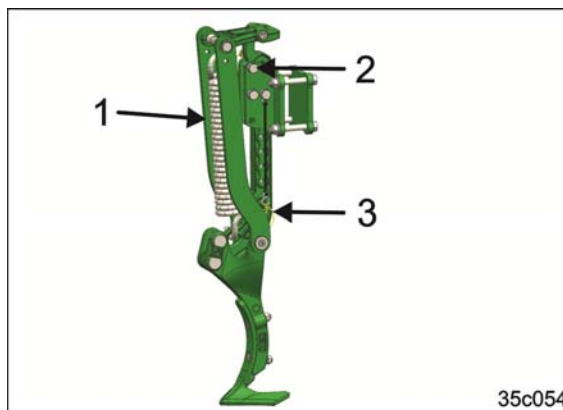

Fig. 128
8. Insert the tractor wheel mark eradicator into the tractor wheel mark eradicator bracket using the recessed grip (Fig. 128/1).
9. Insert all of the positioning pins (Fig. 128/2).
10. Secure the positioning pins with linch pins (Fig. 128/3).